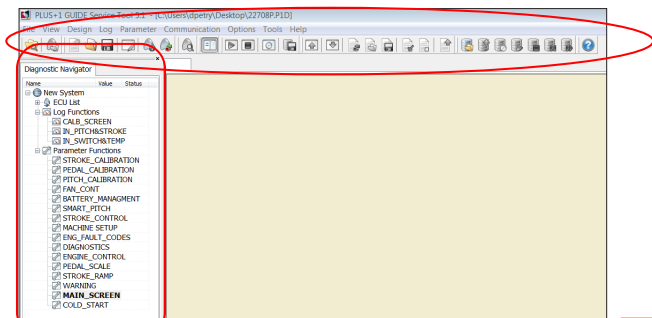

Figure 11. WST Tool Bar
7. The new screen will have both navigation and tool bars active (Figure 11.)